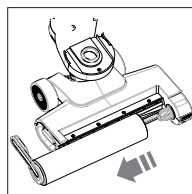

Fig. 13 – Removing the microfibre roller
- ▶ Pull the locking tab on the microfibre roller to the left and remove the microfibre roller (see Fig. 13).